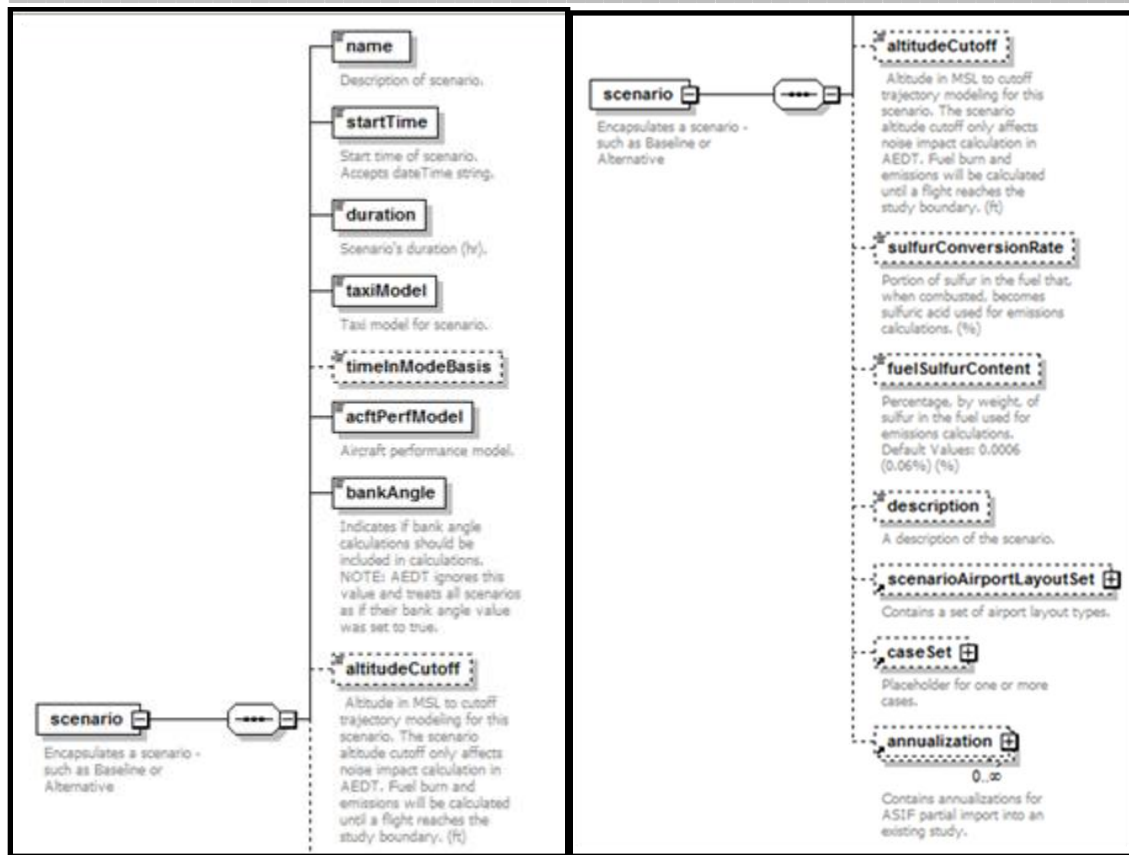

Figure 44- xml element scenario
6. AsifXml/study/scenario (Figure 44):